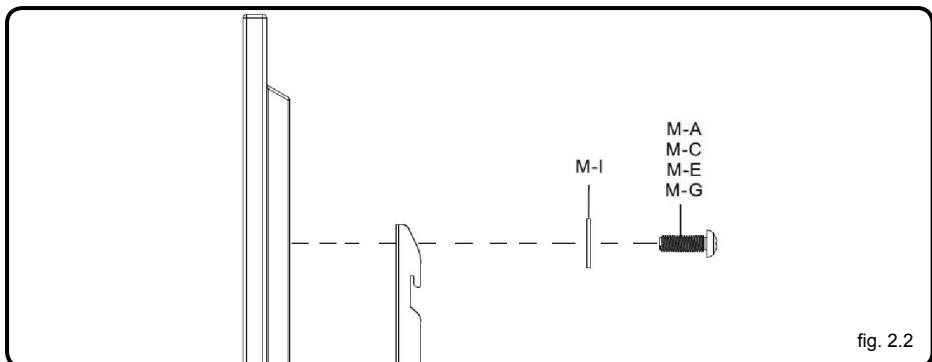

fig. 2.2
- Attach the adapter brackets to the back of the display, using the appropriate screws, washers and spacers as shown in fig. 2.2, 2.3 and 2.4.